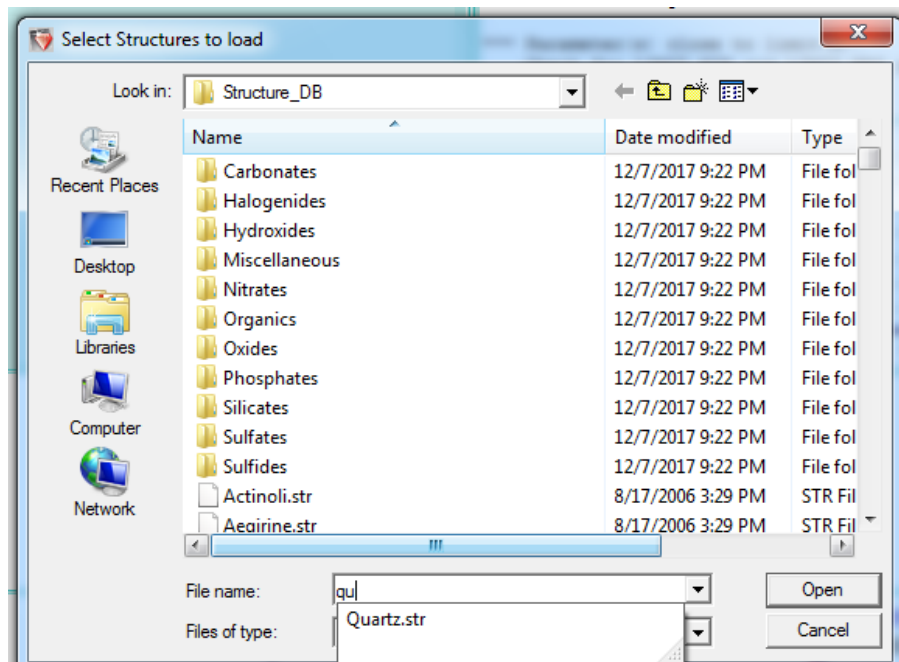

Figure 18. STR Library
3. Select the minerals from the pop up window (Figure 18). You can search through the mineral groups or start typing in the mineral and it will appear in the bar